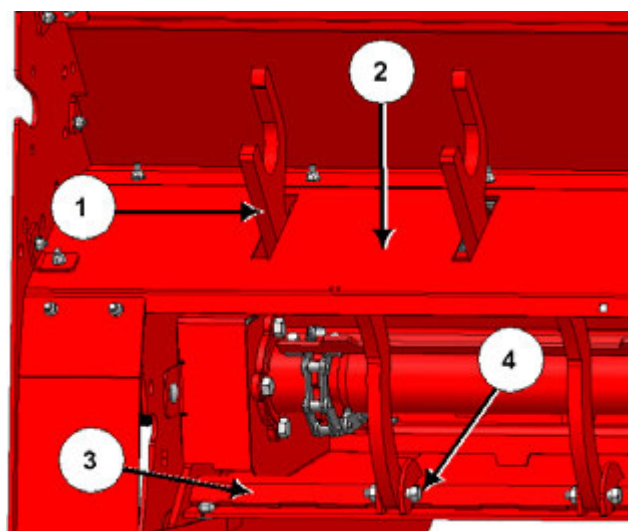

Figure 31: Install guard rods
1. Install the guard rods (Item No. 3 in Table 2); see Figure 31.
- a. Feed a guard rod (1) through the guard rod side sheet (2) and fasten it to the guard rod mount (3) using a provided hex bolt and stover nut (4).
- i. Note: The flail drum is not shown in Figure 31 for clarity. Take care when working around the flail drum.